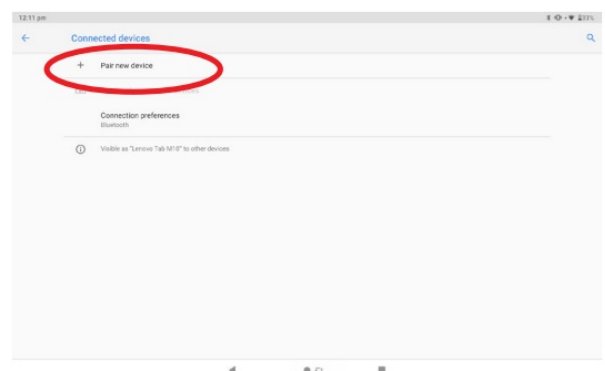

Figure 43
3. Click “Pair New Device” (Figure 43)